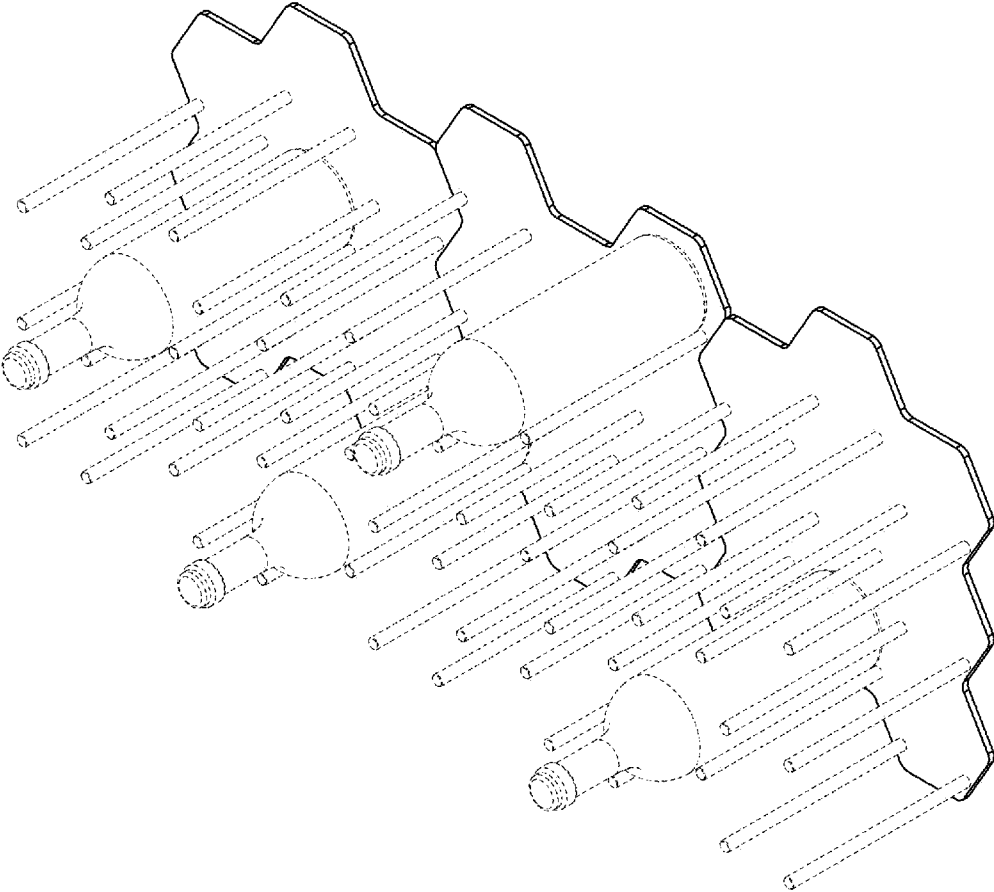
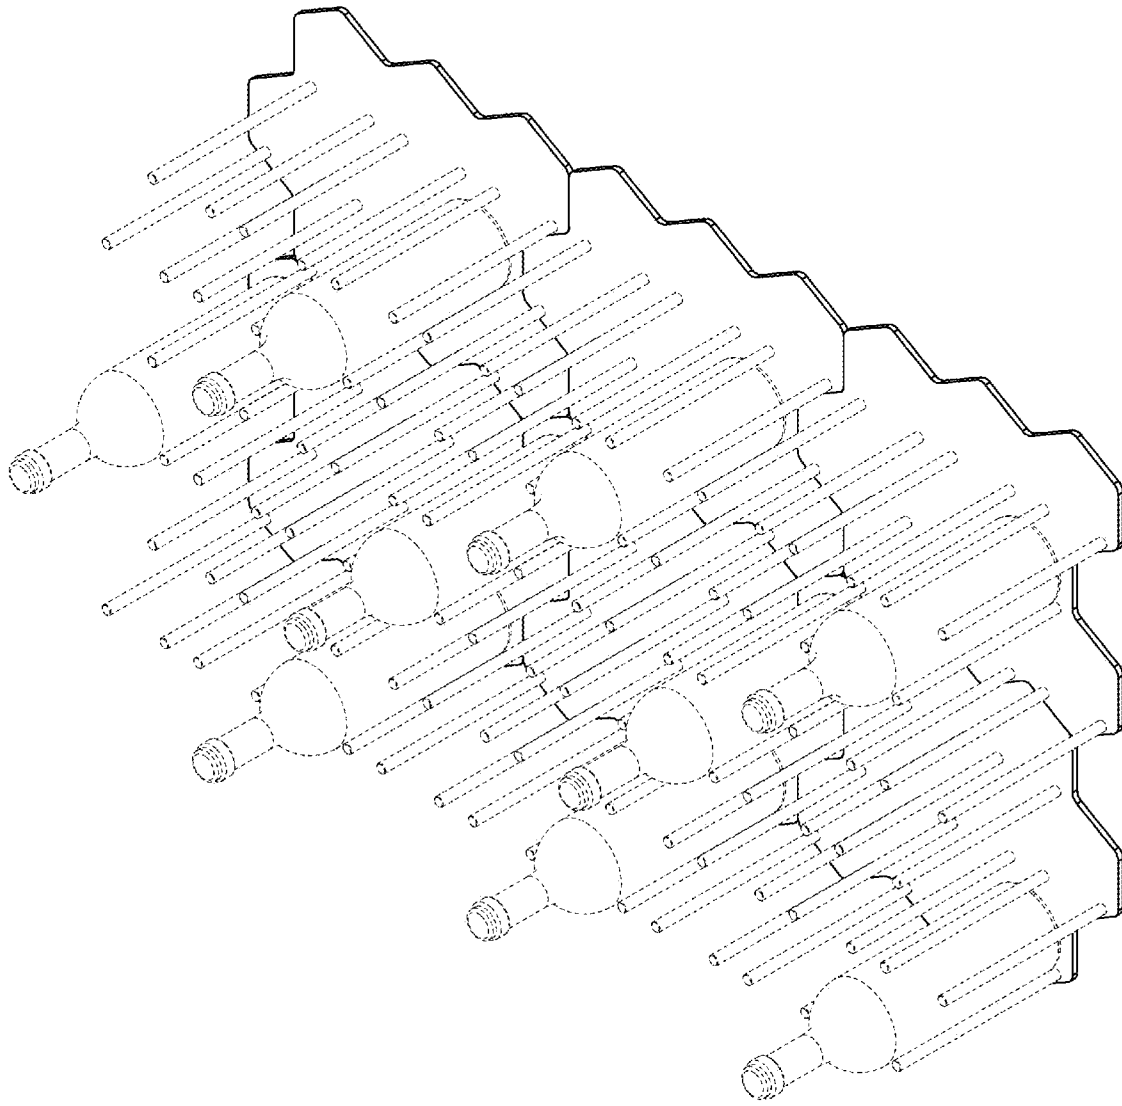

FIG. 33
FIG. 34
FIG. 33 is a front perspective view of a configuration that can be formed with three (3) units of a wall-mounted modular honeycomb wine rack panel and portions; and, FIG. 34 is a front perspective view of a configuration that can be formed with six (6) units of a wall-mounted modular honeycomb wine rack panel and portions.